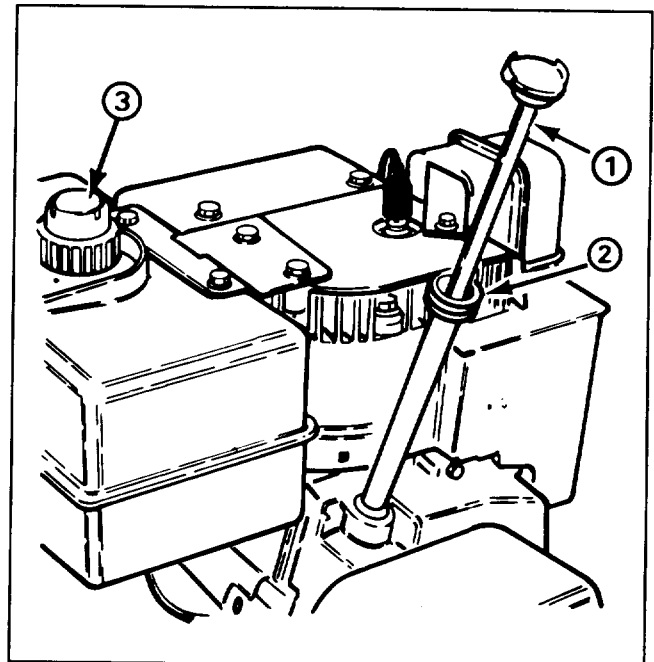

Figure 8
FILL CRANKCASE WITH OIL (Fig. 8)
1. Clean area around the fuel tank cap (Fig. 8). Remove cap from fuel tank. Using unleaded, regular gasoline, fill tank to within 1/4" to 1/2" (6 to 13 mm) from the top of the tank, not into the filler neck. This space is for expansion of fuel. Do not fill tank full. Reinstall fuel tank cap.